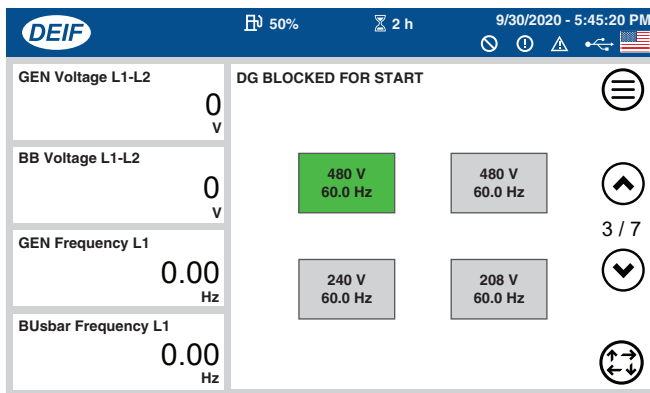

Figure 43. Voltage Selection Screen (3 of 7)
8. On the **Voltage Selection screen (3 of 7)**, select the desired voltage output to match the selection made in step 1. See Figure 43.